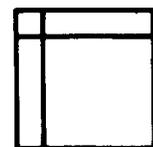

Fig. 22—Core Symbol
2.22 **The core symbol** (Fig. 22) represents an input/output function in which the medium is magnetic core.